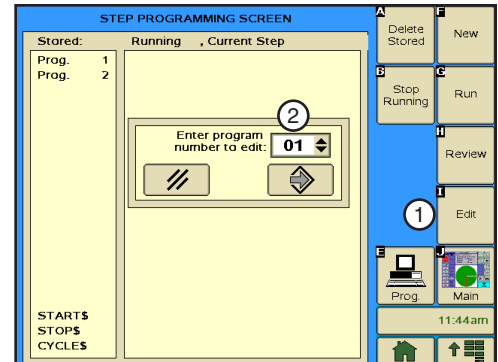

Figure 113-1 1. Edit Button
2. Push the **Edit** button and choose the program number. Refer to Figure 113-1.